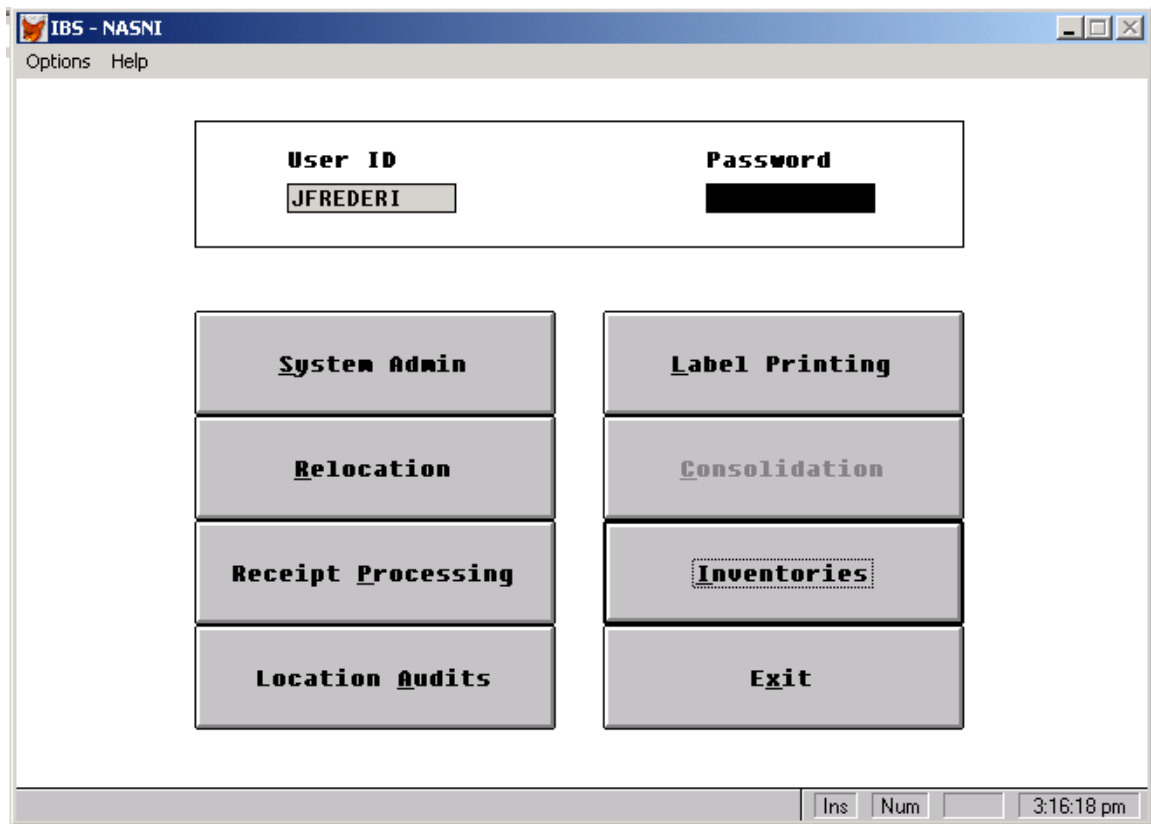

Figure D1
- a. Go to IBS Main Menu. (FIGURE D1)